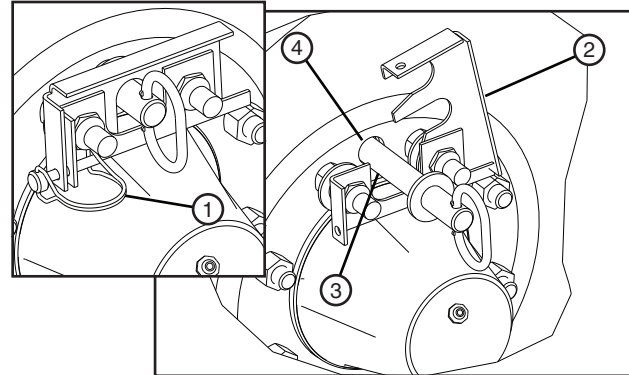

Figure 58-1 1. Lynch Pin
5. Leave the torque pin installed in the hub torque pin receiver on the pivot point cart wheel so that this wheel will not rotate (fixed). See figure 58-1.
6. Remove the torque pin from the hub torque pin receiver on the other cart wheel so that this wheel will rotate. See figure 58-1.